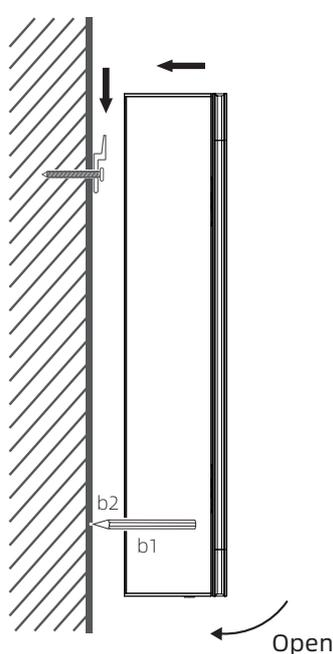
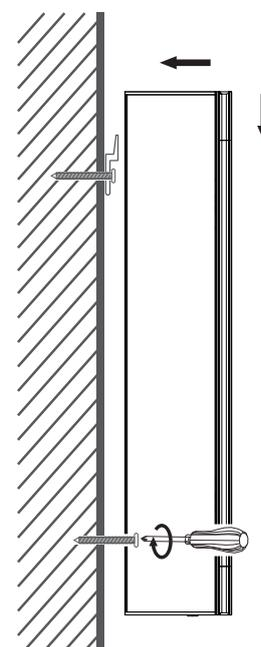

Fig. 3
Fig. 5
- Attach the mirror cabinet to the bar as shown in Fig. 3, open the cabinet door, and mark on the wall ( b2 )with a pencil through the backplate hole (b1).
- Repeat the operation as shown in Fig. 3 and mount the mirror cabinet to the bar, and then tighten the screws on the backplate (Fig. 5).